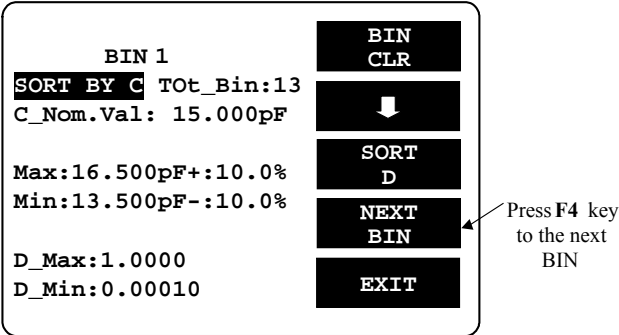

Figure 8-23
- When the BIN 1 setting is finished, press F4 key to continue the BIN 2 setting until all the Tot BIN setting is completed (BIN1~BIN13 the most), please refer to Figure 8-23.